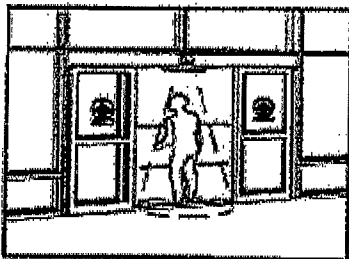
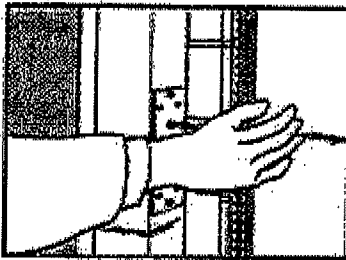

Figure 2
Figure 3
5. Open the door. Cover each doorway holding beam with your hand and stand motionless for several seconds. (See Figure 3) The door should remain open. Remove your hand and the door should close after the time delay expires. If other safety devices are being used, stand motionless in the door opening for 10 seconds. The door should not close. (See Figure 2)